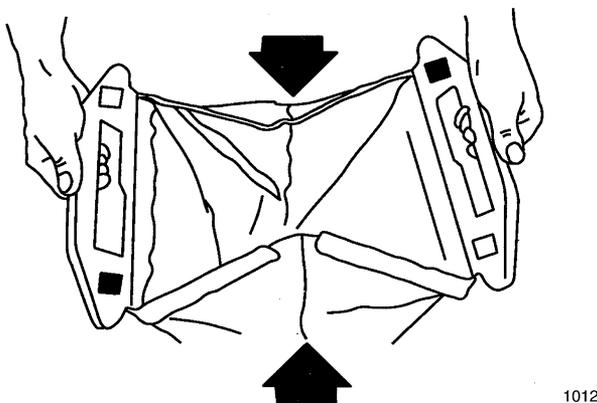

Figure 43
13. Close rear of bag by folding sides in and pressing interlocking rear handle halves together (Fig. 43).